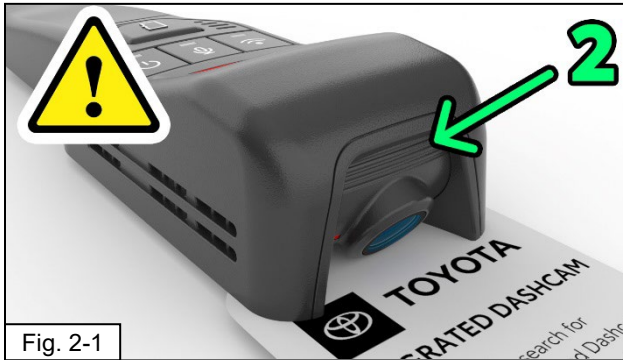

Fig. 2-1
- (b) Confirm Camera Angle Position – 2 visible recessed lines should be seen below the lens with the camera held in the as-installed orientation. (Fig. 2-1, Note: Camera is upside down in the image)